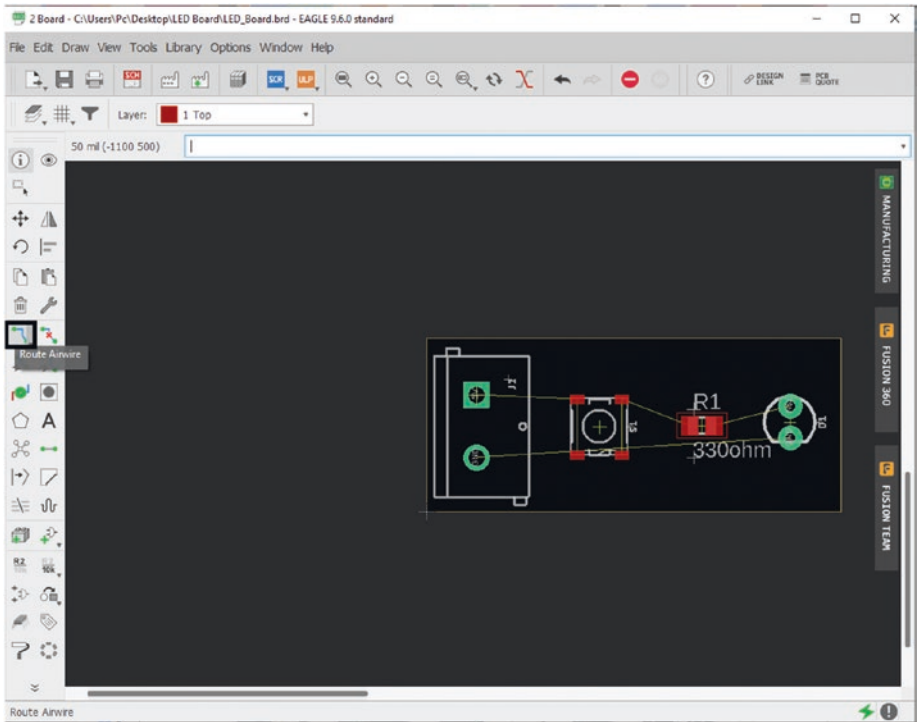

Figure 5-69. Select the Route Airwire button
18. Select the “Route Airwire” button. See Figure 5-69.